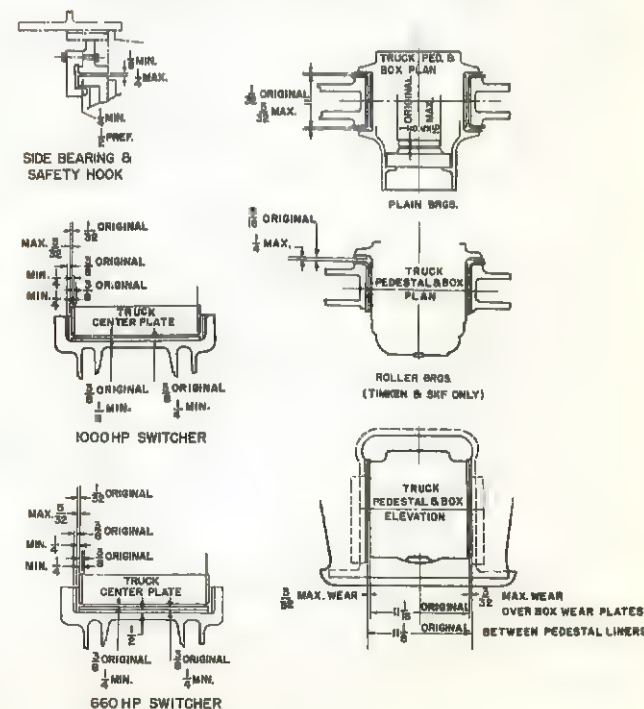

FIG. 9-7
1. The following items should be inspected and compared with Fig. 9-7, Four Wheel Truck Clearances and Wear Limits: